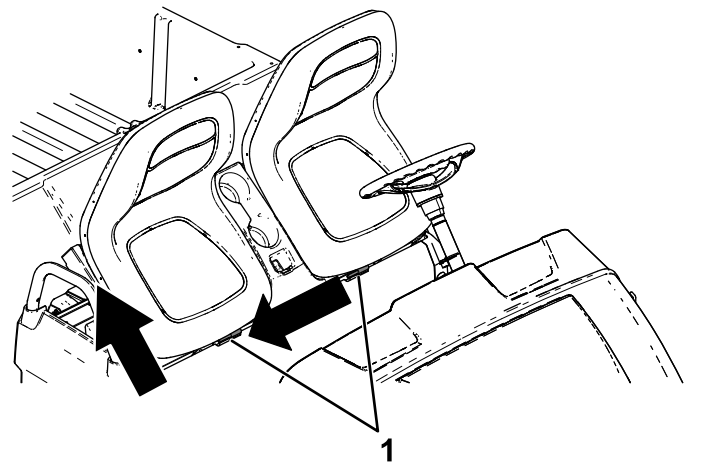

Figure 26
2. Slide the seat assembly to the side out of the pins, and lift the seat assembly upward (Figure 26).